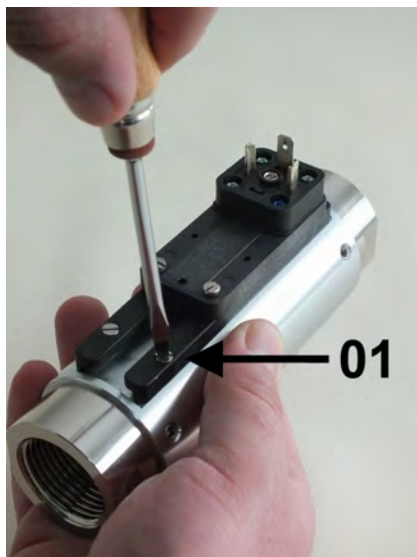

Fig. 57: Release the guide rail
4. ➤ Loosen one of the two screws (Fig. 57/01) of the guide rail.
- 9.** ➤ Fasten the guide rail. (Fig. 57/01)